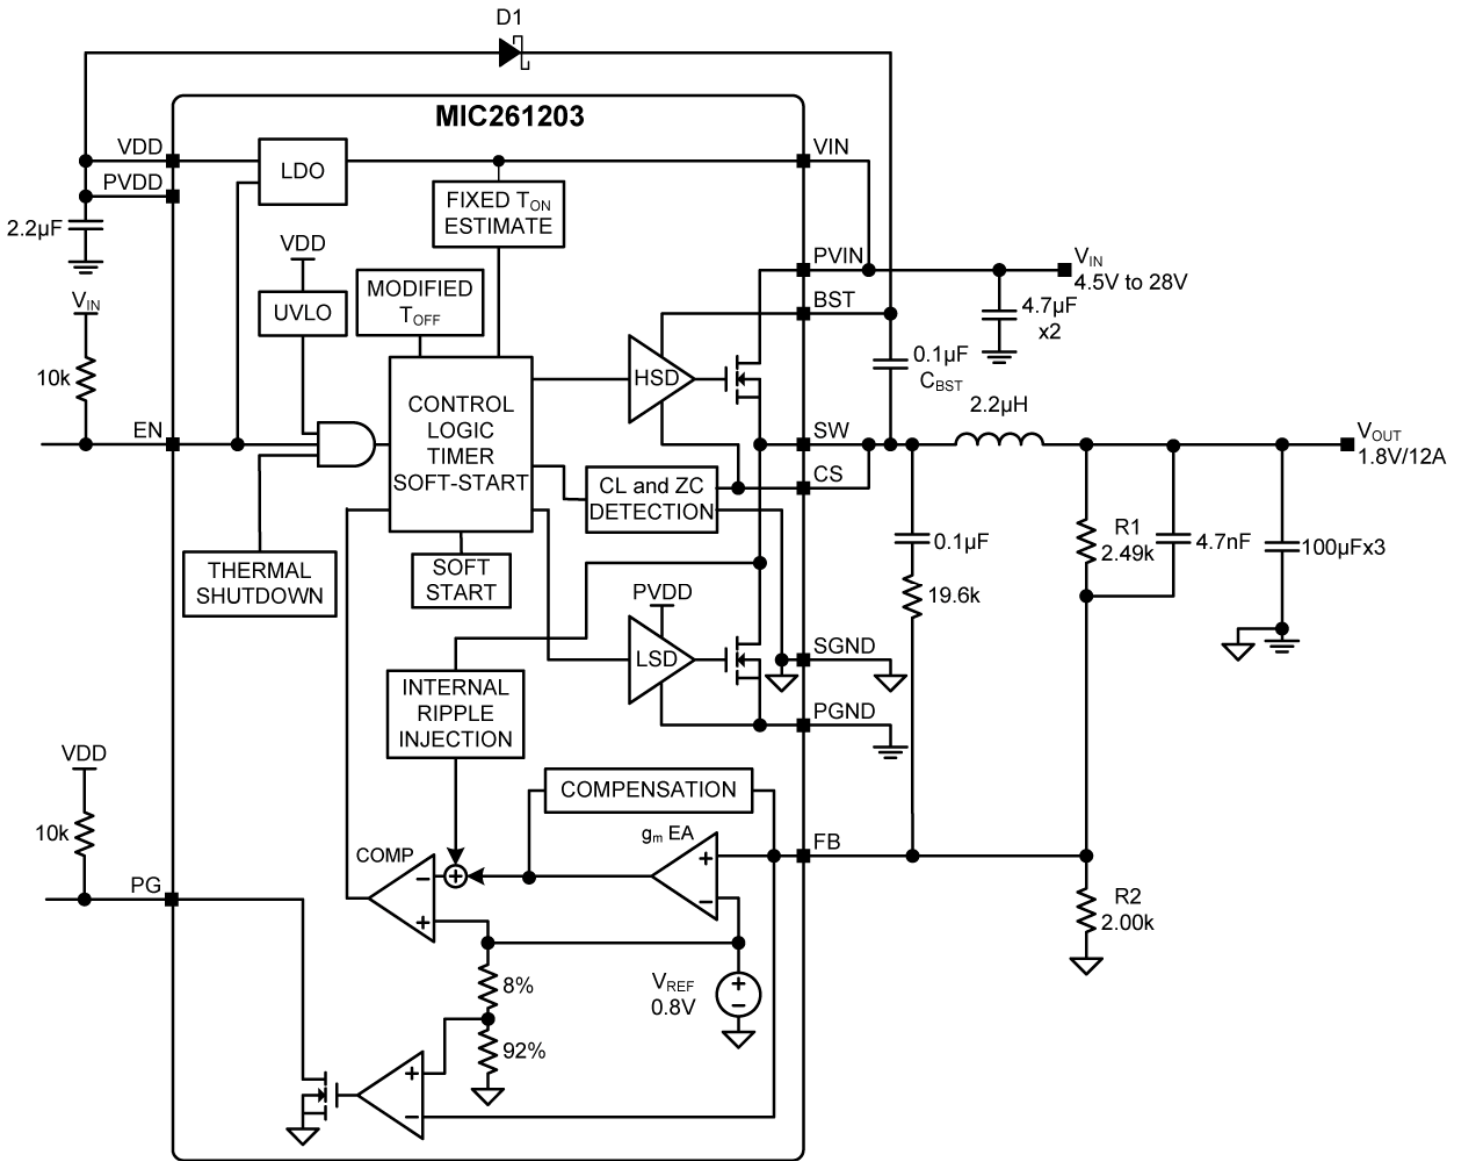

Figure 1. MIC261203 Block Diagram
The MIC261203 is able to operate in either continuous mode or discontinuous mode. The operating mode is determined by the output of the Zero Cross comparator (ZC) as shown in Figure 1.
The Block Diagram (Figure 1) shows a bootstrap circuit, consisting of D1 (a Schottky diode is recommended) and  $C_{BST}$ . This circuit supplies energy to the high-side drive circuit. Capacitor  $C_{BST}$  is charged, while the low-side MOSFET is on, and the voltage on the SW pin is approximately 0V. When the high-side MOSFET driver is turned on, energy from  $C_{BST}$  is used to turn the MOSFET on. As the high-side MOSFET turns on, the voltage on the SW pin increases to approximately  $V_{IN}$ . Diode D1 is reverse biased and  $C_{BST}$  floats high while continuing to keep the high-side MOSFET on. The bias current of the high-side driver is less than 10mA so a 0.1 $\mu$ F to 1 $\mu$ F is sufficient to hold the gate voltage with minimal droop for the power stroke (high-side switching) cycle, i.e.  $\Delta BST = 10\text{mA} \times 1.67\mu\text{s}/0.1\mu\text{F} = 167\text{mV}$ . When the low-side MOSFET is turned back on,  $C_{BST}$  is then recharged through D1. A small resistor  $R_G$ , which is in series with  $C_{BST}$ , can be used to slow down the turn-on time of the high-side N-channel MOSFET.